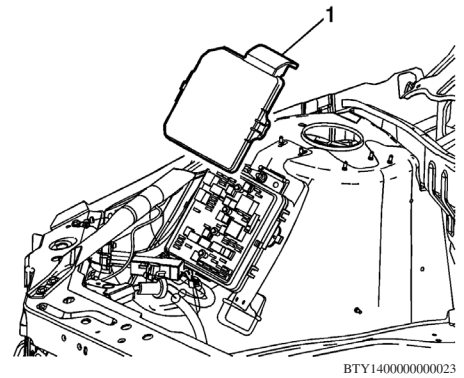

Fig. 2 Electrical center cover removal
2. Remove electrical center cover (1), **Fig. 2**.
9. Install electrical center cover (1), **Fig. 2**.